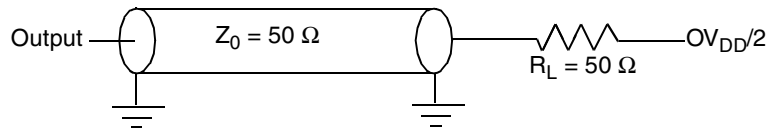

Figure 32. AC Test Load for the JTAG Interface
- All outputs are measured from the midpoint voltage of the falling/rising edge of tTCLK to the midpoint of the signal in question. The output timings are measured at the pins. All output timings assume a purely resistive 50-Ω load (see Figure 32). Time-of-flight delays must be added for trace lengths, vias, and connectors in the system.
- The symbols used for timing specifications herein follow the pattern of t(first two letters of functional block)(signal)(state) (reference)(state) for inputs and t(first two letters of functional block)(reference)(state)(signal)(state) for outputs. For example, tJTDVKH symbolizes JTAG device timing (JT) with respect to the time data input signals (D) reaching the valid state (V) relative to the tJTG clock reference (K) going to the high (H) state or setup time. Also, tJTDXKH symbolizes JTAG timing (JT) with respect to the time data input signals (D) went invalid (X) relative to the tJTG clock reference (K) going to the high (H) state. Note that, in general, the clock reference symbol representation is based on three letters representing the clock of a particular functional. For rise and fall times, the latter convention is used with the appropriate letter: R (rise) or F (fall).
Figure 32 provides the AC test load for TDO and the boundary-scan outputs of the MPC8555E.